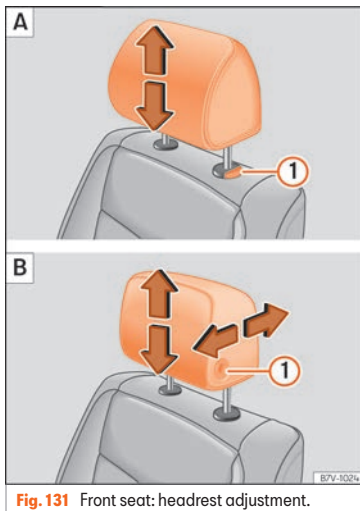
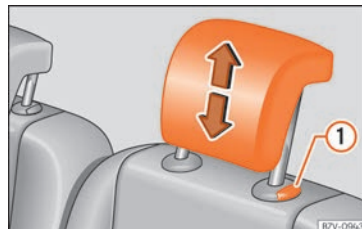

Fig. 131 Front seat: headrest adjustment.
Fig. 132 Adjust the head restraints in the second or third row of seats
- Move the headrest up or down in the direction of the corresponding arrow. Regarding the rear headrest, to both raise and lower, press the button » Fig. 131 ①; for the rear headrests it is only necessary to press the button » Fig. 132 ① to lower them » Δ in Introduction on page 133.
- Move the headrest forward or back in the direction of the corresponding arrow while pressing the button » Fig. 131 ① B.